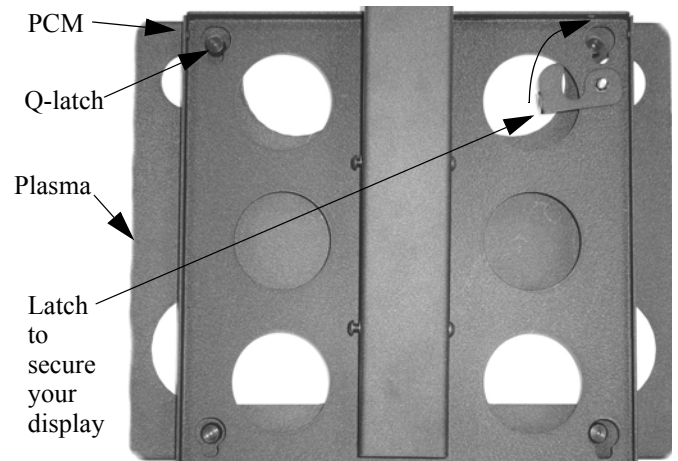

Figure 3. Mounting
2. Make sure the mount is level (see ADJUSTMENTS, Roll) and latch is positioned so it will not obstruct plasma installation (see Figure 3).